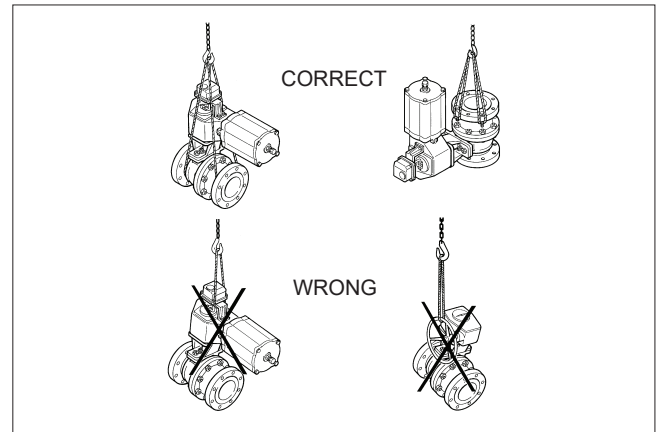
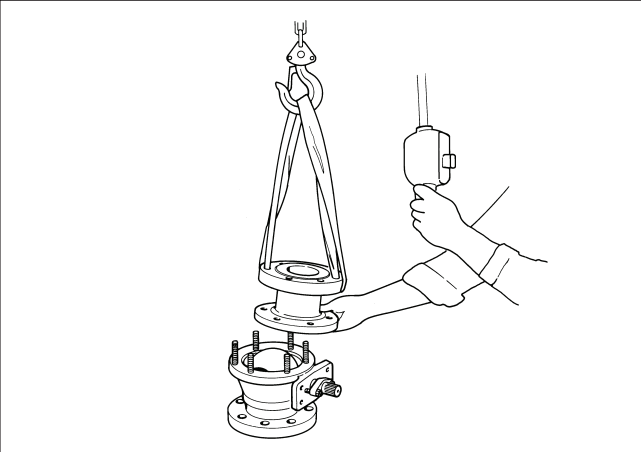

Fig. 5 Lifting the valve
Fig. 8 Lifting a body cap
- Carefully attach the ropes, loosen the pipe flange screws and lift the valve using the ropes. Make sure that you lift the valve correctly. See also Figure 5.
- Place the valve so that the body's hexagon nuts (16) point upwards. Use a surface that does not damage the flanges.
- Loosen the gland follower nut (18).
- Loosen the body's hexagon nuts (16).
- Remove the body cap (2) from the valve. Should the ball seat (25) not stay on the body cap, keep it from falling while you are lifting it out by putting your fingers under the body cap (small sizes) or in the flow bore (large sizes). **Watch out for your hand!** Lower the body cap onto the surface in a standing position, i.e. onto its flange (see Figure 8).